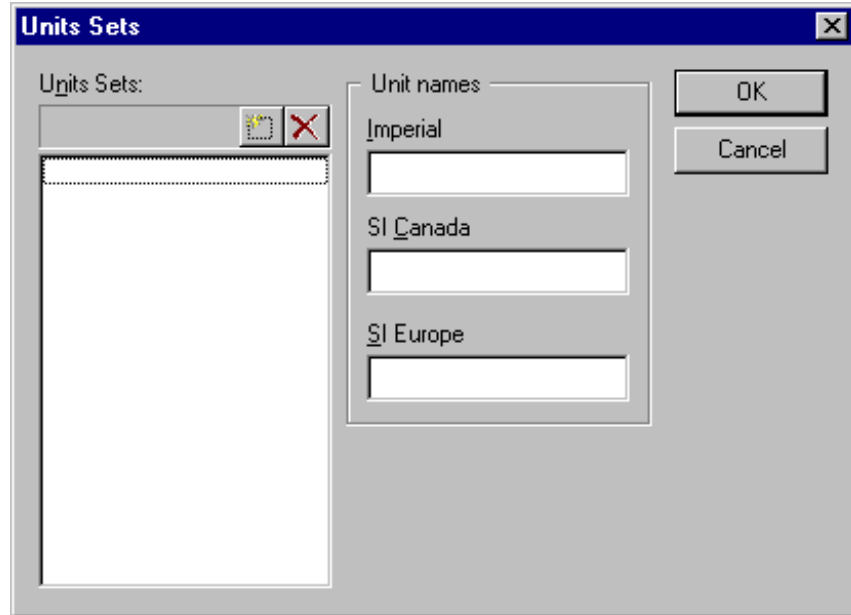

Figure 7-5: Units Sets Screen
1. In the M-Display control, press the Units button to open the Units Sets screen (Figure 7-5).